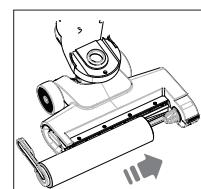

Fig. 15 – Inserting the microfibre roller
- ▶ Place the microfibre roller on the roller holder with the right-hand side first. Turn the locking tab so that you can engage the locking tab in the recess in the cleaning foot (**see Fig. 15**).